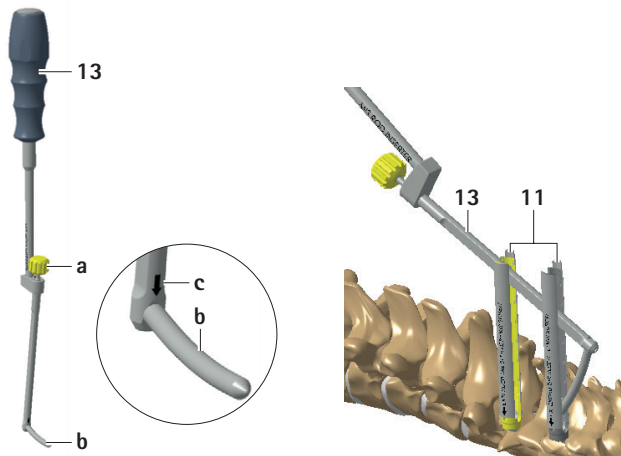

Fig. 11
- ▶ Once the final tightening is achieved, detach the rod inserter **13** (SZ151R) from the rod by turning the golden knob **a** counter-clockwise, see Fig. 11. Remove the connection by pulling the rod inserter **13** out of the rod, e.g. by levering the rod inserter towards the construct.